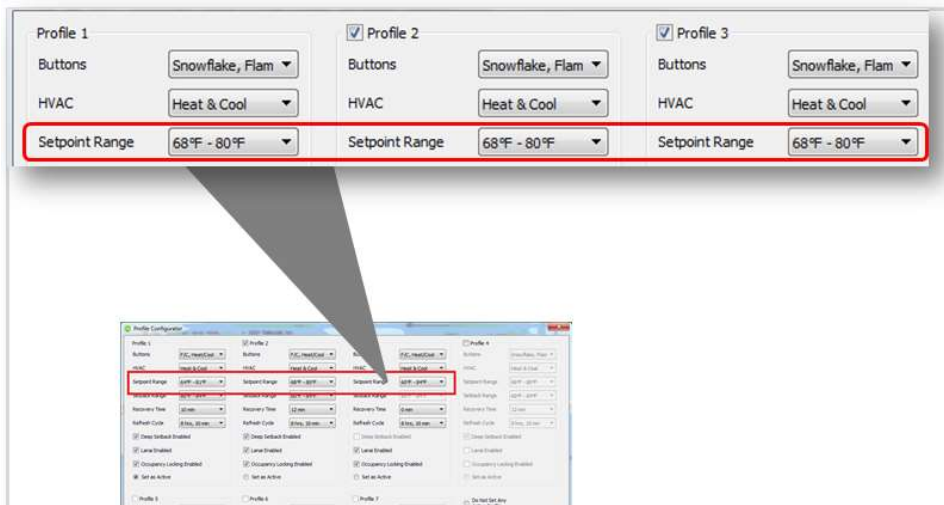

Figure 15
18. Set the **Setpoint Range** for each profile. The example below has a normal sold range, a narrower unsold range, and a wider VIP range (Figure 15).